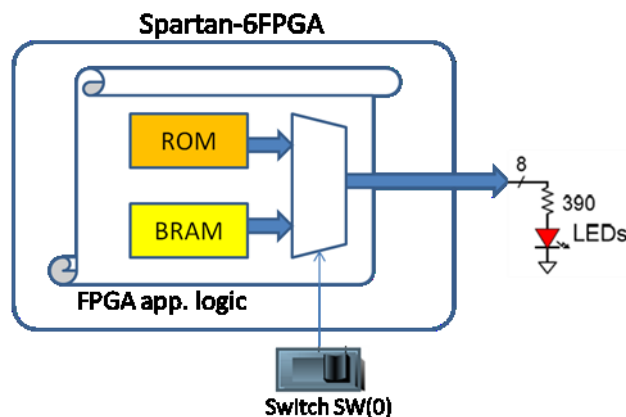

Figure 1 Block diagram of desired circuit
In this lab we'll create a project to implement the following design description: The circuit must contain two memories. A ROM created using a case statement and initialized to the desired values (such as the coefficients of a filter). This memory will be inferred as a distributed RAM memory by the Xilinx synthesis tool (XST). The second memory is a block RAM (BRAM) created using the Core Generator tool (part of ISE WebPack). The contents of these memories will be read continuously and displayed on the 7 LEDs. Slide switch SW(0) is used to select between the two outputs of the two memories to drive the LEDs. A simplified representation of this functionality is shown in the block diagram in Fig.1.